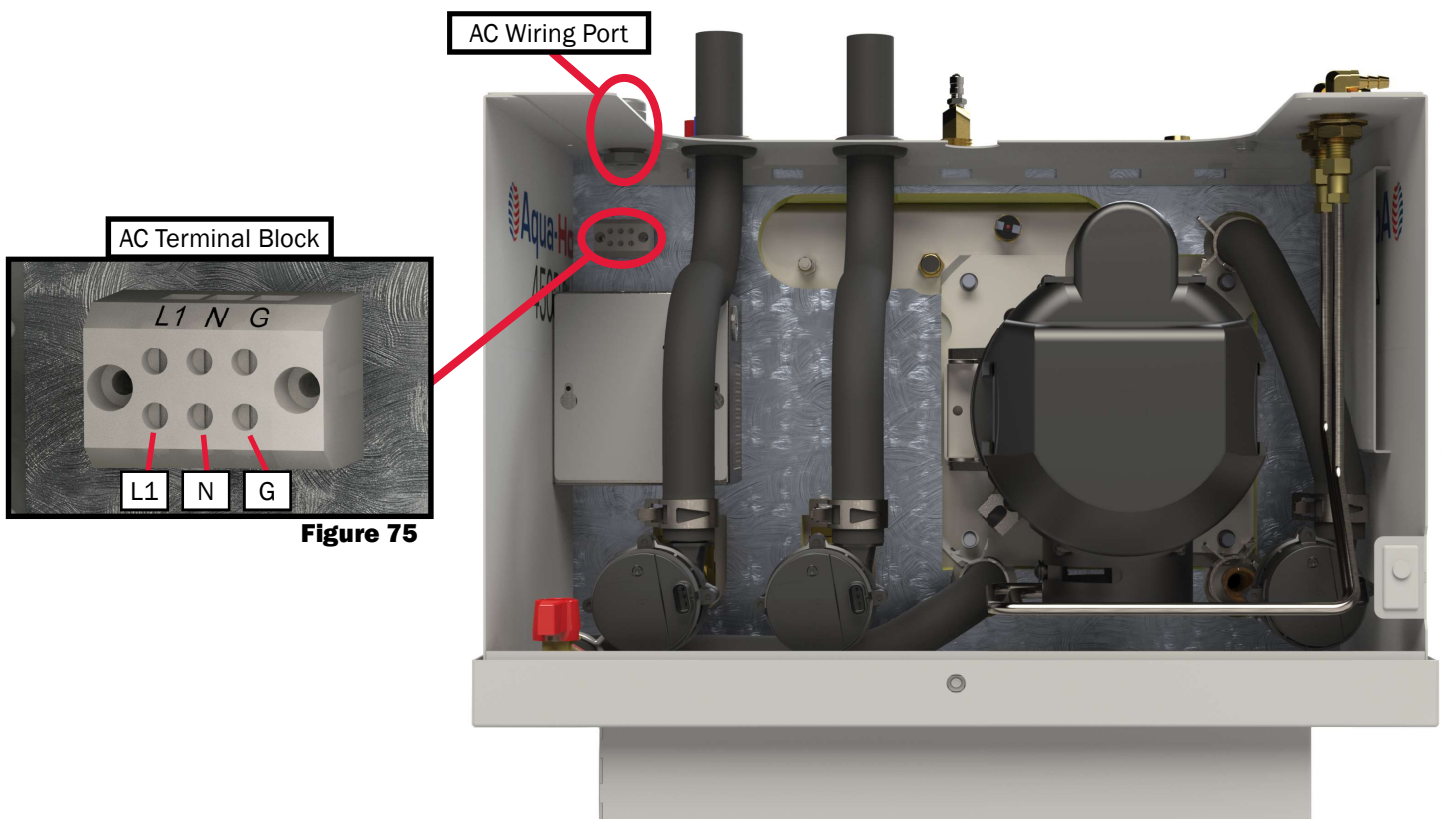

Figure 76
1. Route and insert three 120V AC power source wires into the AC terminal block through the AC wiring port's cable clamp fitting and into the proper terminal. Reference Figure 76 and the schematic on page 48.